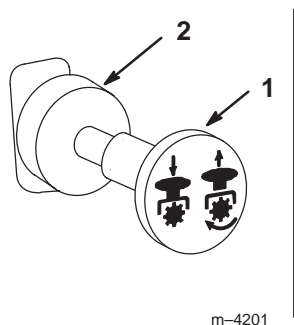

Figure 15
3. Move the PTO (power take off) switch to off (Fig. 15).